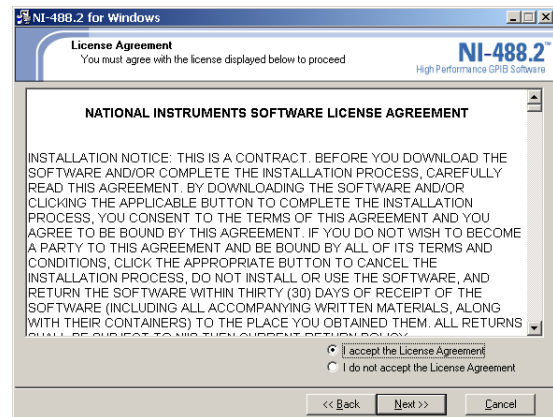

Figure 4C. License agreement—installation page 2
4. The **License Agreement** (Figure 4C) will open. Click in the radio box to accept the agreement, then click on the **Next >>** button.